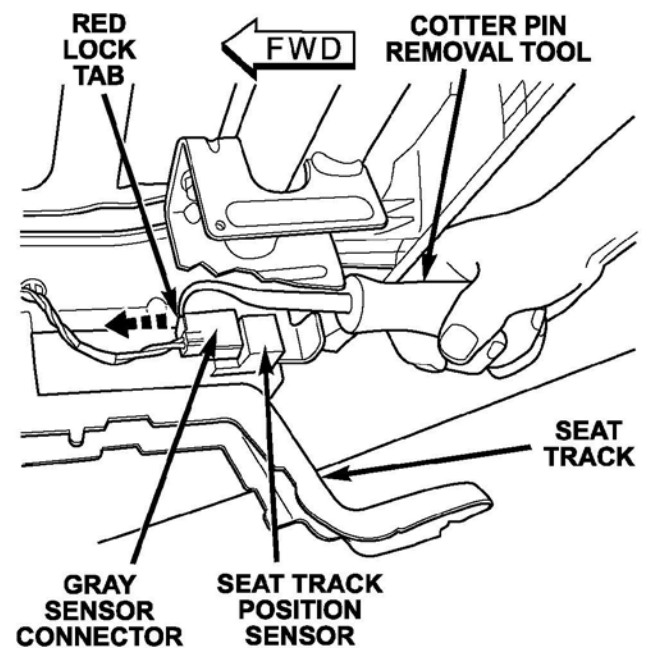

Figure 2 – Viewed from Under Seat
5. **For convertible models**, locate the seat track position sensor on the seat track. Use a cotter pin removal tool (Snap-on CP3B or equivalent) to push the red lock tab forward on the gray electrical connector (Figure 2).